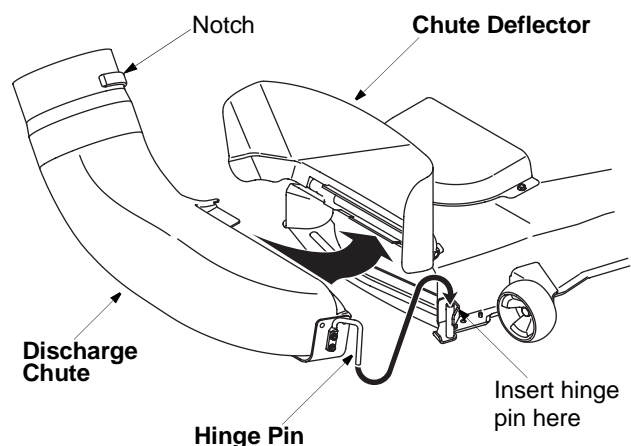

Figure 7
- Insert the hinge pin of the discharge chute into the tube on the chute stop bracket. See Figure 7.